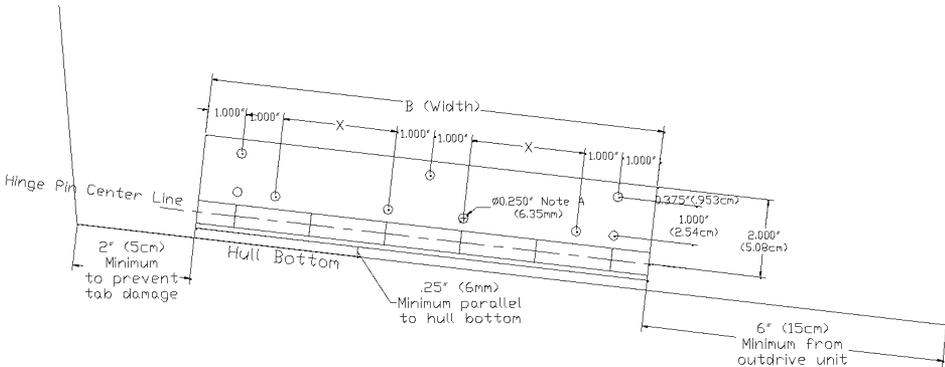

Fig. 1
Review the tab plate and actuator installation diagrams in Fig 1 and 2 to ensure there are no interference issues with the tab plates or actuator on the boat transom before actual mounting begins. Place the actuator and tab plate against the transom before mounting to correct any interference problems before the mounting begins.
1. Align the tab mounting plate to the transom as shown in Fig. 1. A tab mounted closer to the boat chine is more effective in correcting list; however, maintaining a 2" (5cm) or greater distance from the chine will reduce the risk of tab damage from docks or other obstructions. Keep the inward facing tab edge approximately 6" (15cm) or more away from the motor outdrive unit for motor clearance when fully turned.